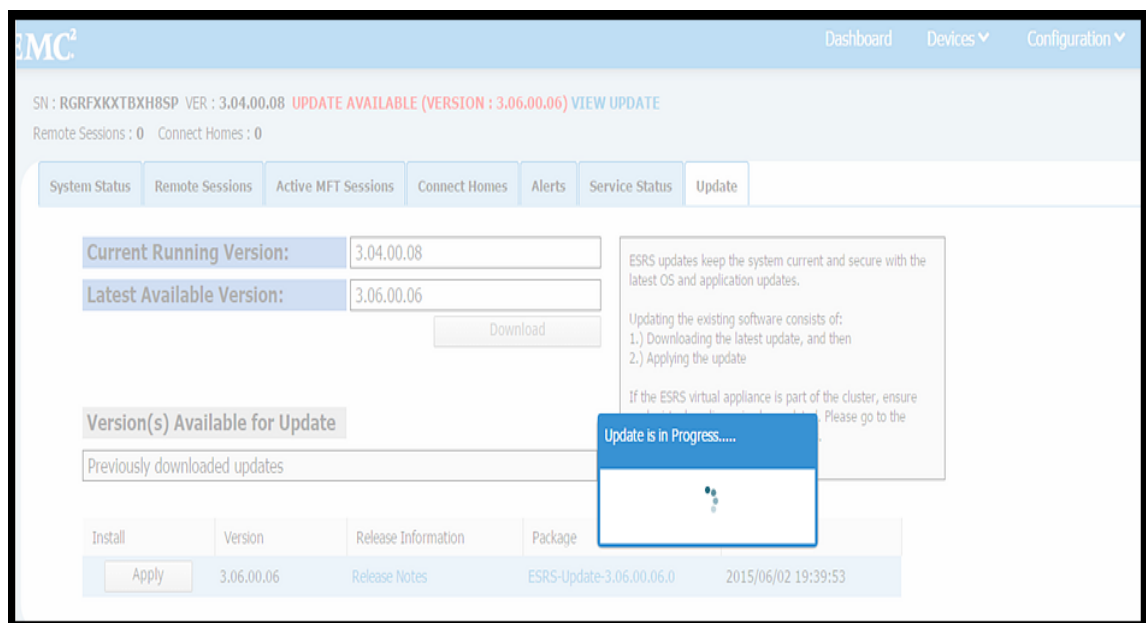

Figure 109 Update in progress
8. After applying the patch, SRS reboots after some time. An Update in Progress status bar on the Web UI initially appears, as shown in Figure 109 on page 83, but later it will only show the static content as it cannot communicate to SRS once the SRS reboot process had started.